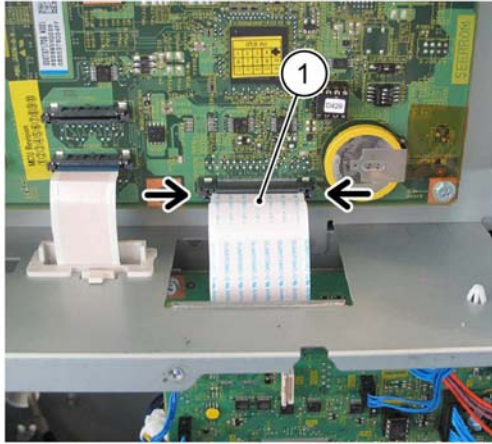

Figure 4 Ribbon cable
5. Carefully disconnect the ribbon cable (1) by releasing the side clips, Figure 4.